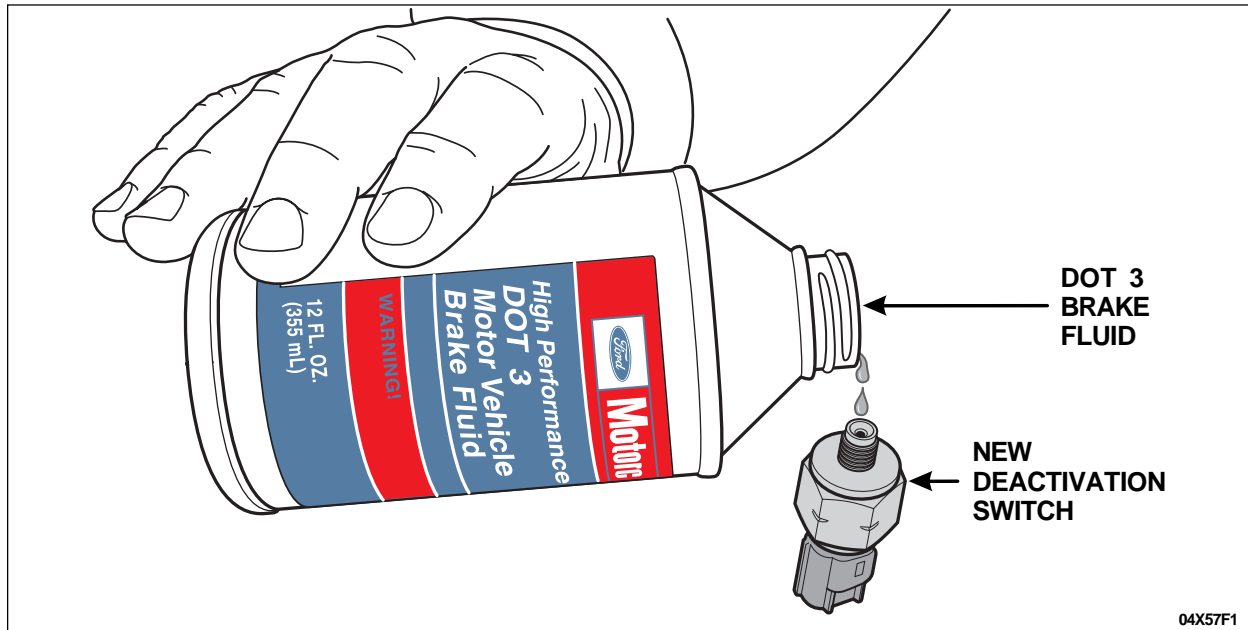

FIGURE 6
2. Add a few drops of Motorcraft High Performance DOT 3 Motor Vehicle Brake Fluid, PM1-1 or PM1-1-C (US), CPM-1-C (Canada), to the fluid port at the threaded end of the **new** SCDS. See Figure 6.